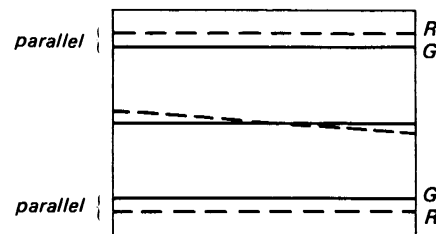

Fig. 3-21
- (8) Adjust RV5529 (V KEYS (R)) so that the red horizontal lines are parallel with the green horizontal lines on the upper and lower sides screen (Fig. 3-21).